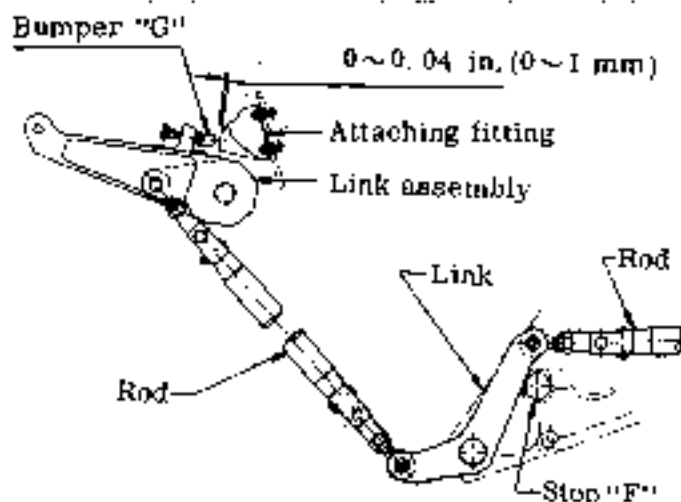

Fig. 4-35 Adjustment of stop
- (6) Adjust stop "F" so that link may strike stop "F" when actuator comes to a length of 16.63 ± 0.08 in. (422.4 ± 2 mm). (See Fig 4-35).
- (7) Adjustment of door open stop in emergency gear extension (See Fig 4-35).